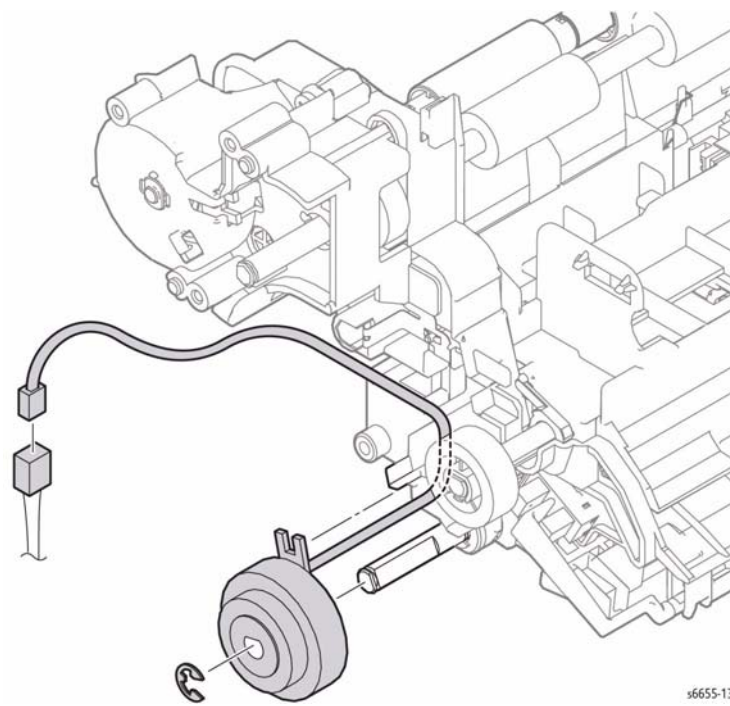

Figure 1 Remove the Feed Clutch Assembly
2. Refer to Figure 1 to locate and unplug connector P/J392 on the harness coming from the Feed Clutch Assembly, and release the harness from the harness guide.